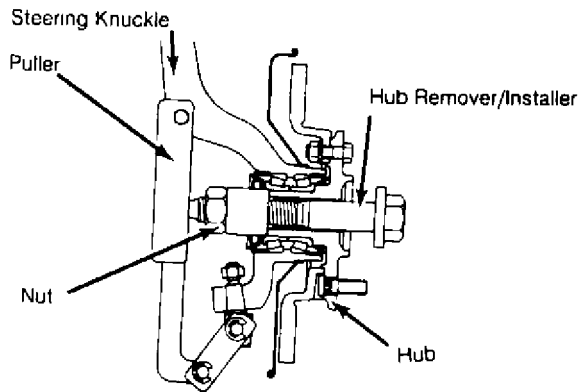
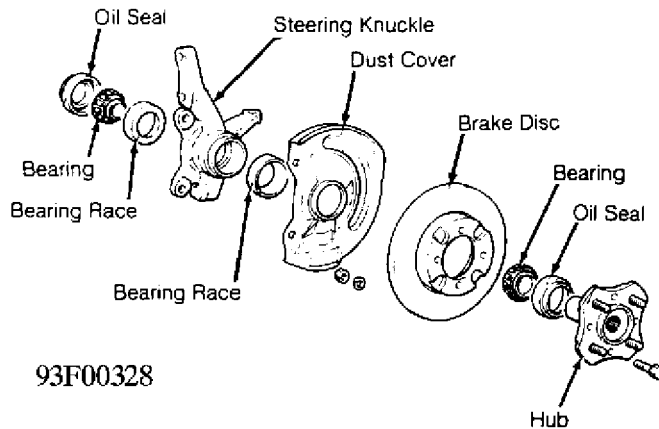

Fig. 5: Removing Hub From Steering Knuckle
Fig. 6: Exploded View Of Steering Knuckle & Hub (Colt, Colt 200, Mirage & Summit; Precis Is Similar)
1) Remove steering knuckle and hub assembly. See STEERING KNUCKLE under REMOVAL & INSTALLATION. Install Hub Remover/Installer (09517-21500 for Precis and MB990998 for all others) in hub and steering knuckle. See Fig. 5.
2) Install Knuckle Bridge (MB991056) on steering knuckle. Separate hub from steering knuckle. See Fig. 5. Remove brake disc from hub. Using bearing puller, remove bearing inner race from hub. See Fig. 6.
1) Remove steering knuckle. See STEERING KNUCKLE under REMOVAL & INSTALLATION. Secure steering knuckle in vise. Using Hub Remover/Installer (MB990998) and Puller (MB991056), separate hub from knuckle. See Fig. 5.
1) Remove steering knuckle. See STEERING KNUCKLE under REMOVAL & INSTALLATION. Remove inner oil seal. Secure steering knuckle in vise. Using Hub Remover/Installer (MB990998-01) and Puller (MB991056 or MB991355), separate hub from knuckle. See Fig. 5.